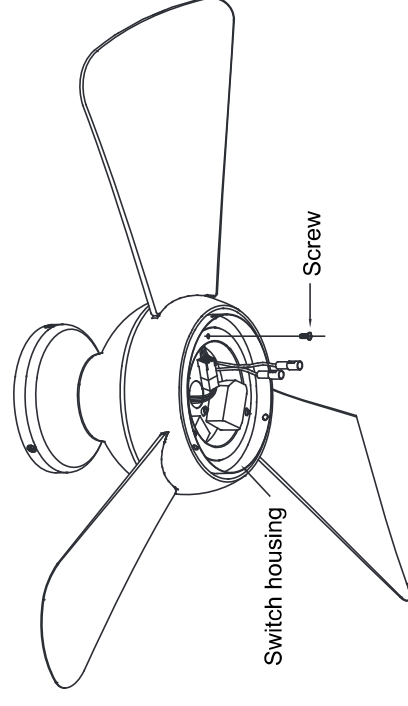

Fig. 14
Step 4. Remove one of the three screws in the switch housing. Slightly loosen the remaining two screws (**Fig. 14**).